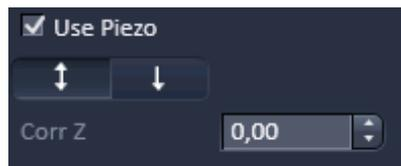

Fig. 79 Use Z-Piezo stage for Z-Stack acquisition – appearance for the LSM imaging mode
- Define the first and last slice using **First/Last** mode. Activate **Piezo** mode (Fig. 79). The total Range of the Z-Stack is limited to 250 μm when using the Piezo device. Adjusting the value for **Number of Slices** or **Interval** is independent from each other and affects the Range of the stack. The Focus Position is not changed.